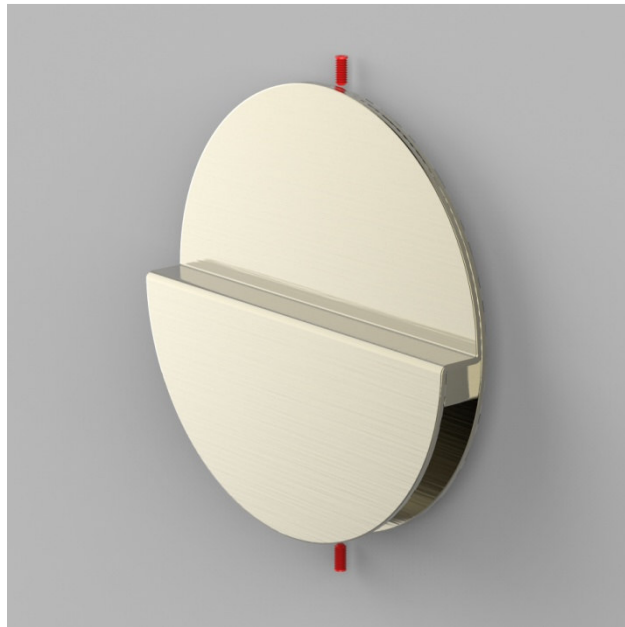

Figure 3
- Remove mounting plate from backside of fixture by loosening set screws, (Figure 3)
- Using the provided Allen Wrench, tighten set screws at top and bottom of sconce. (Figure 3)